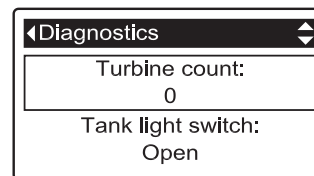

FIG. 133
2. Press the DOWN (▼) button to scroll through the list until **Turbine Count** is displayed (See Figure 133).